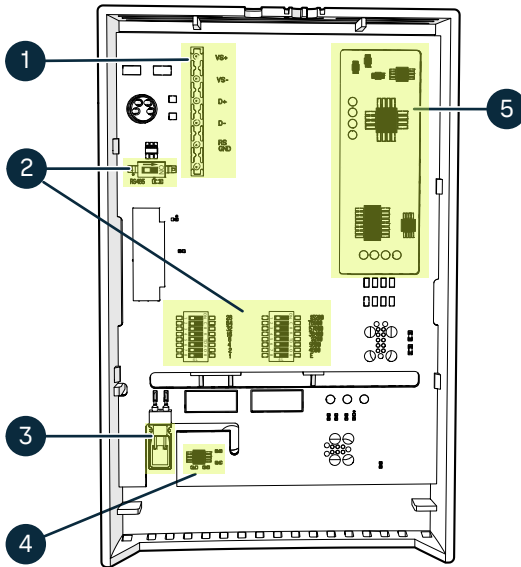

Figure 2 XMW85 series component board parts inside the transmitter cover
- 12 Transmitter cover, including component board (see also Figure 2 \(page 12\))